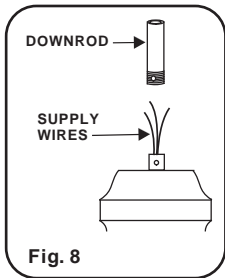
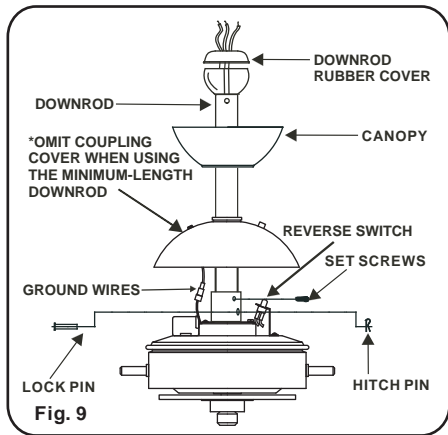

Fig. 8
Fig. 9
Step 4. Carefully feed fan wires up through the downrod. (Fig. 8) Thread Downrod into the Coupling until the holes are lined up and secure with the Lock Pin and Hitch Pin previously removed, tighten Set Screws. (Fig. 9)
Step 5. Slip the Coupling Cover over the Downrod, carefully align the Coupling Cover access window to the slide Reverse Switch button. Next slip the Canopy over the Downrod and allow it to rest over the Coupling Cover. (Fig. 9) **NOTE:** When installing the coupling cover onto motor collar, be sure the arrow markings on the collar cover and reverse switch are aligned. Then connect the ground wires from coupling cover and motor.
Step 6. Place downrod rubber cover onto the hanger ball. (Fig. 9)